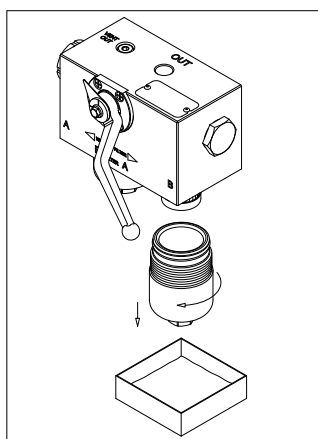

fig. 21
- (Fig. 21) Unscrew the filter bowl while keeping the collection vessel